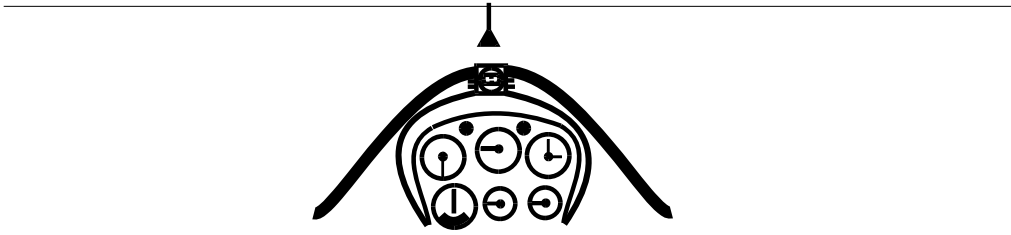

Fig 2. "Aircraft left 11 o'clock high".
2. **Airmanship - clock code.** Airmanship is the airborne equivalent of road craft and is a skill which develops with experience. It includes awareness of other traffic, remaining within safe gliding range of a suitable landing area, considering the effect of approaching weather, and maintaining a high level of situational awareness. At the start of your training the instructor takes full responsibility for the airmanship but as your training progresses you will be expected to develop a good standard of airmanship before being allowed to fly solo. This will include judging how to remain within gliding range of the airfield and keeping a good look out for other aircraft. Even on your first flight you provide another useful pair of eyes to see other aircraft and you should report any that you see to your instructor. At some stage you will be taught the use of the clock code to report sightings. This code assumes you are at the centre of a clock and therefore 12 o'clock is directly ahead, 3 o'clock is directly to your right, 6 o'clock directly behind you, and 9 o'clock directly to your left. So to report an aircraft that appears above the horizon and slightly left of directly forward you should say "Aircraft left 11 o'clock high". See Fig 2. If you can estimate the distance that will also be useful.